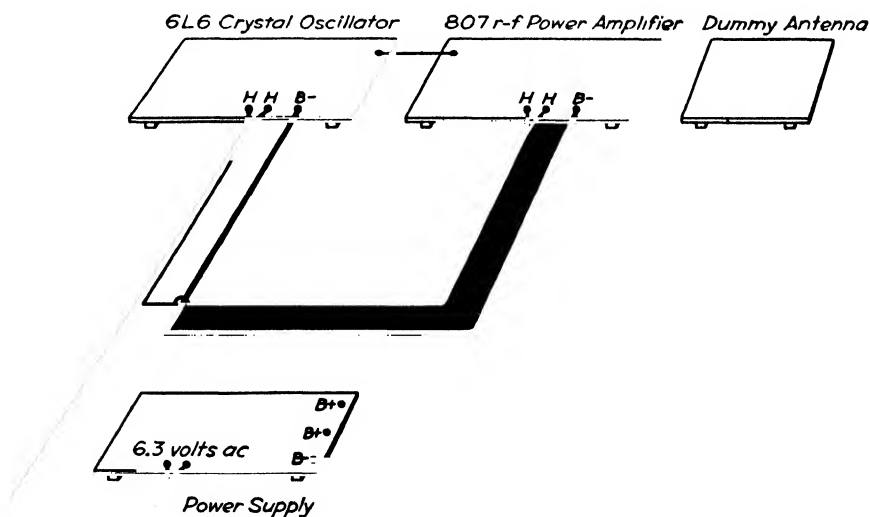

FIG. 443. Connect the B-minus wire as shown here.
Step 3. Connect a wire from the power supply to the B minus on both boards (see Fig. 443).